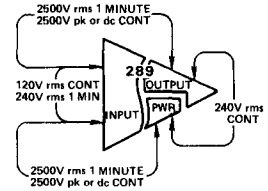

Figure 4. Model 289 Terminal Ratings
**Terminal Ratings:** CMV performance is given in both peak pulse and continuous ac, or dc peak ratings. Continuous peak ratings apply from dc up to the normal full power response frequencies. Figure 4 illustrates model 289 ratings between terminals.